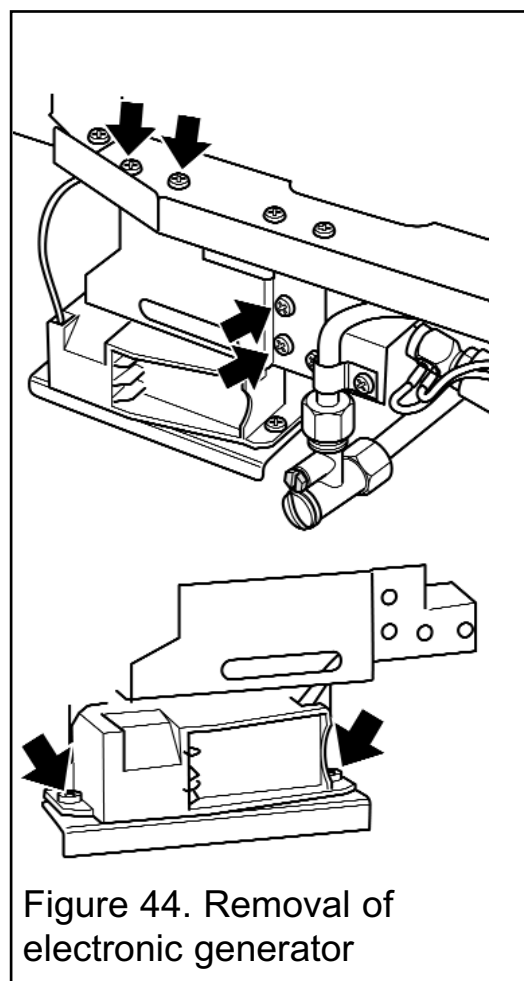

Figure 44. Removal of electronic generator
5. Unscrew the four support bracket screws (See figure 44). The generator and its support bracket can now be moved forward. Be careful not to apply tension to the microswitch leads.
6. Remove the two fixing screws that attach the generator unit to the support bracket. The igniter generator can now be removed (See figure 44)